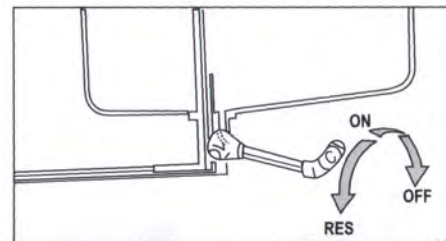

Fig. 12
Petrol control (fig. 12): The fuel cock below the saddle has 3 positions. Use (ON) for regular flow of petrol from tank to the engine; (OFF) for stopping the petrol supply to engine; and (RES) i.e. Reserve, to access the one litre of petrol kept in reserve in your tank for emergencies.